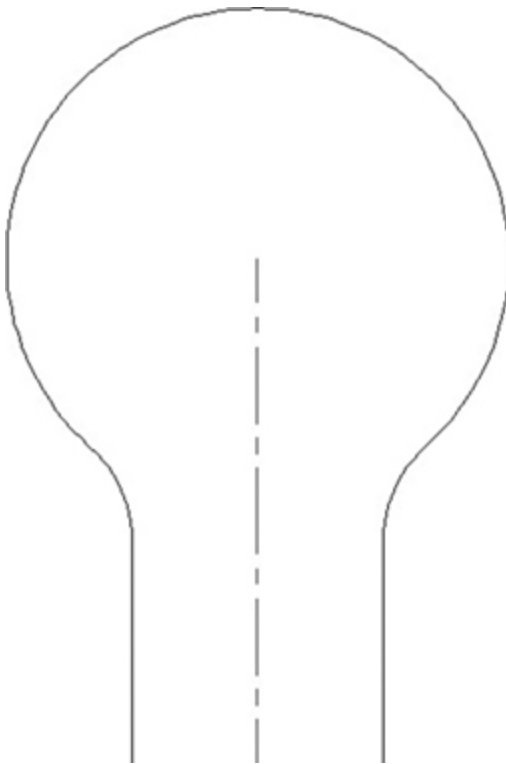

Figure 8-39
- 5** Start the **FILLET** command, and set the radius to **25**. Turn on **Multiple** mode, and add fillets between the arc and line segments. Your drawing should look like Figure 8-39.